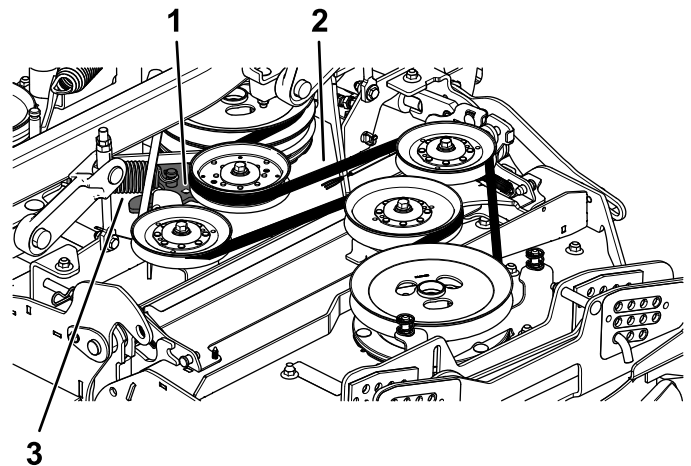

**Figure 58**
4. Remove the 2 lynch pins from the outer belt cover and remove the outer cover (Figure 58).
5. Rotate the inside belt cover upward (Figure 58).